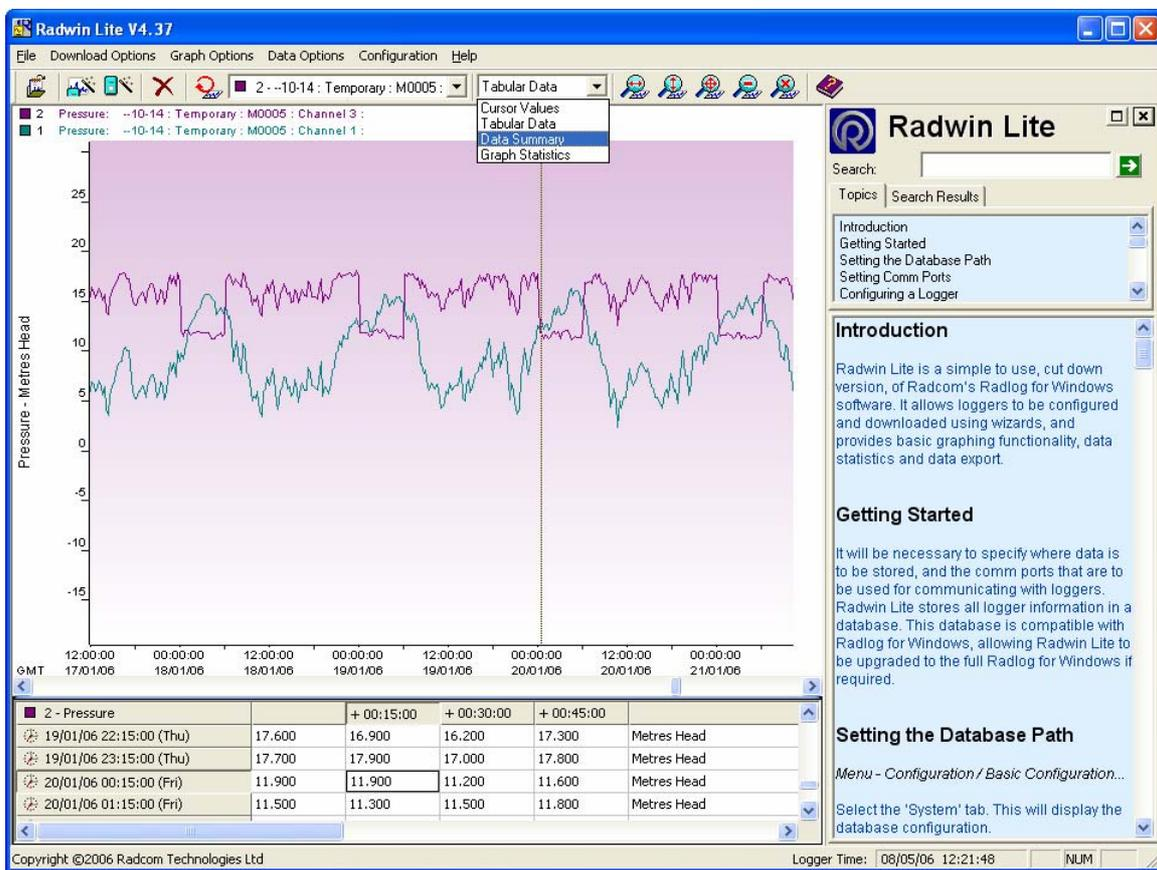

Figure 26 – Selecting the Table Data Format
- clicking on the toolbar to display the options for the Table Data (see Figure 26).